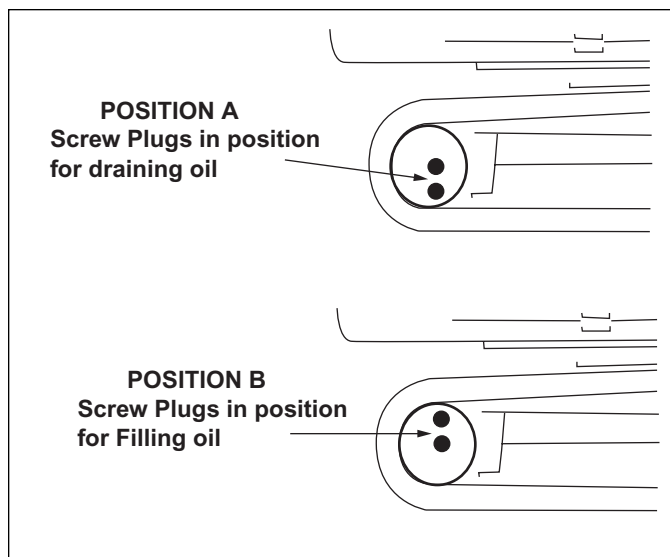

Figure 4-14 Changing Final Drive Oil
3. Slowly open the cap to relieve pressure (Figure 4-14). Remove cap and clean strainer of any debris.
1. Position the machine on a level surface with final drive plugs positioned as shown in POSITION A, Figure 4-14. Turn off the engine.
3. Turn the engine on and move the machine slightly until plugs are positioned as shown in POSITION B, Figure 4-14. Turn off the engine.